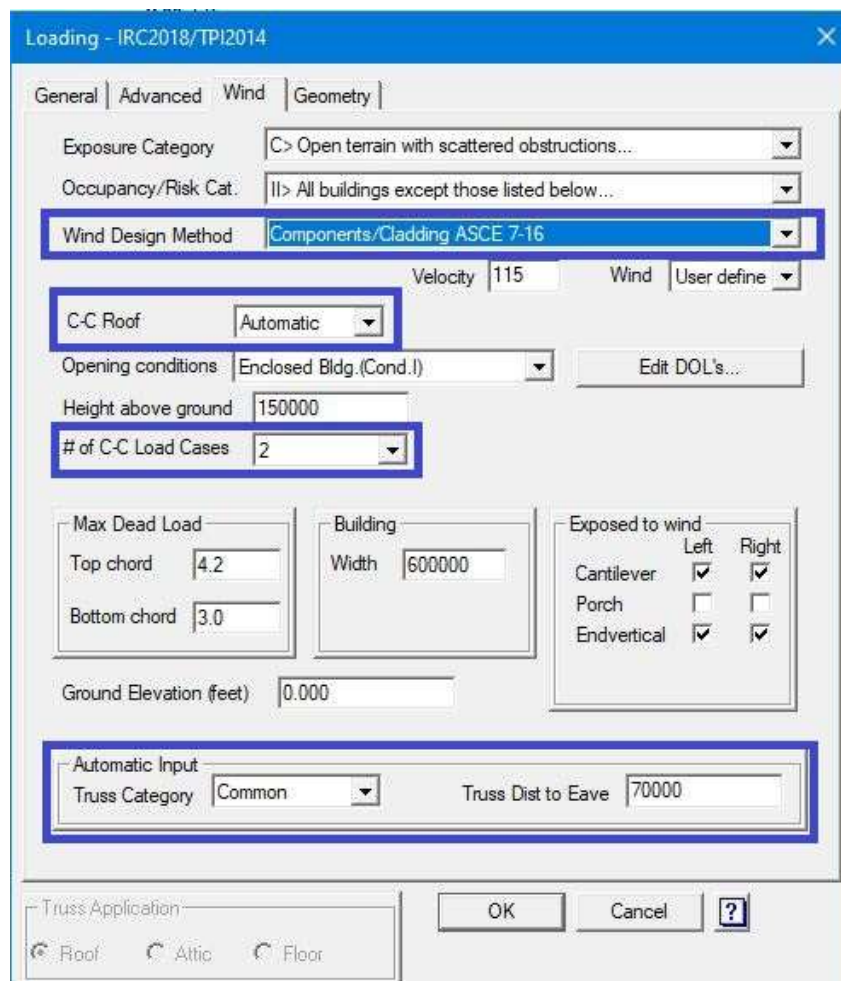
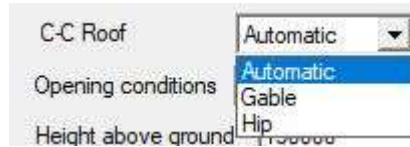

Figure 7 – CC Wind Variables
Figure 8 – CC Wind Zones
- **C-C Roof** – There are three options, see Figure 8. The location of the truss component within the roof system will dictate the winds loads that need to be considered. “Automatic” will load the truss based on the additional information seen in Figure 7. Both Gable and Hip will load truss accordingly.